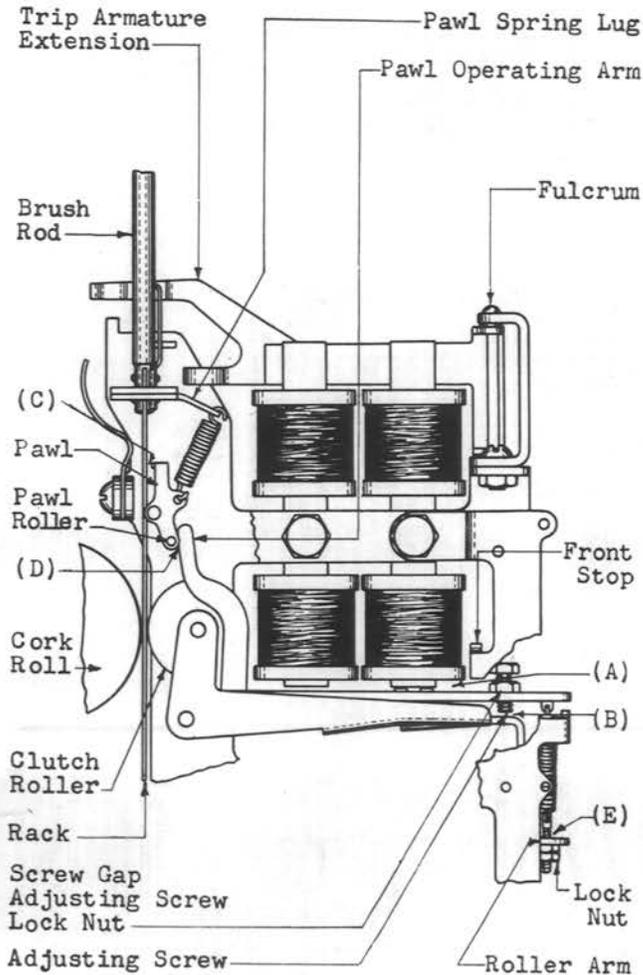

Fig. 11 - Downdrive Armature in Fully Operated Position (Later Type Pawl)
2.16 Clearance Between Front Stop and Armature - Fig. 11 (A): With the armature fully operated there shall be clearance between the armature and front stop. This requirement applies to 1, 2, 3, 4 and 6 type clutches only, since there are no front stops on 5 and 7 type clutches.
2.17 Gap Between Screw Gap Adjusting Screw and Roller Arm - Fig. 11 (B): With the clutch downdrive fully operated, when the screw gap adjusting screw is closest to the roller arm, the gap between the tip of the screw and the roller arm, shall be
2.19 Pawl Clearance - Fig. 11(C): With the clutch roller pressed against the rack and the rack pressed against the cork roll with just sufficient pressure to drive the rack down without slipping, the pawl shall not touch the rack in any vertical position the rack may assume.
*2.21 Pressure of Pawl Roller Against Pawl Operating Arm - Fig. 11 (D): The pressure of the pawl roller against the operating arm shall be
2.22 Position of Helical Spring Adjusting Stud (Turnover Only) - Fig. 11 (E): After all adjustments have been made, there shall be at least one thread showing above the roller arm to provide for further tensioning of the spring. Gauge by eye.